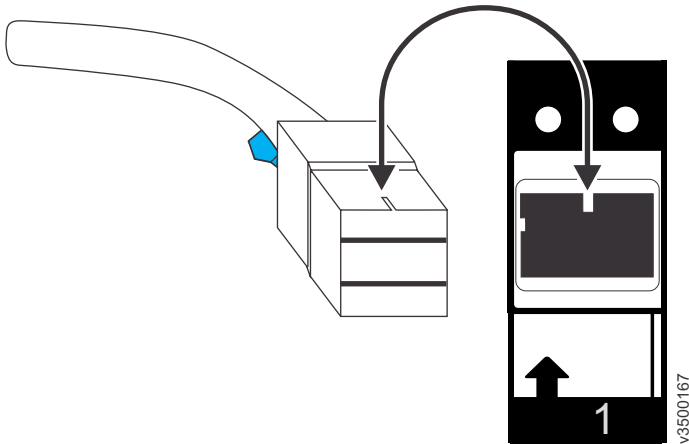

Figure 100. Proper orientation for SAS cable connector
- Figure 100 shows the correct orientation. The blue tab is always below the port for expansion enclosure attachment SAS cables.